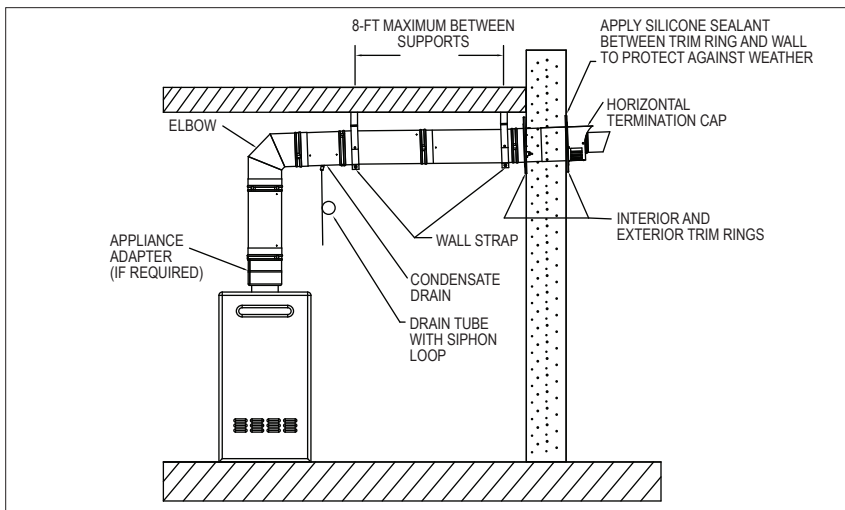
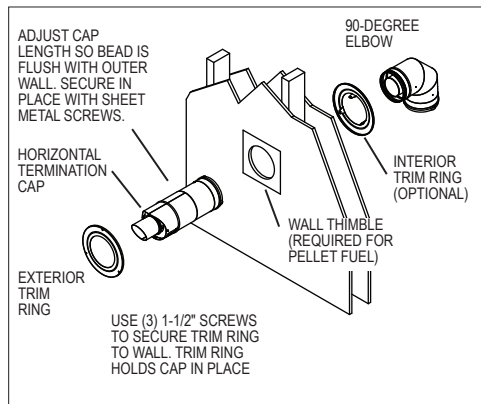

Figure 2- Gas Fuel
Figure 4
of the Appliance Adapter (if needed) and the radius/height of the Elbow. For horizontal vent runs, always maintain at least a 1/4" rise per foot away from the appliance (**Fig.2**) to prevent collection of condensate or buildup of heat in the vent. Also make sure you have accommodated any minimum vent height, if any, that the appliance manufacturer may require.
3. Cut wall penetration. Refer to the appliance manufacturer for clearance to combustible requirements from the vent. To accommodate the flared end of the vent pipe, the minimum hole size should be 5-3/8" x 5-3/8" for a square cut, or 5-3/8" diameter for a round cut (**Fig.4**). Always check with the appliance manufacturer for any additional clearance to combustibles (if any) from the venting that may be required. For reference, the Outside Trim Ring provided with the Horizontal Termination Cap measures a maximum of 8-1/2" diameter, and has a hole pattern of 7" diameter. **For pellet fuel installs, a wall thimble is required.**
4. Layout the Vent. Verify which CVS vent lengths and components you will need for your installation. Note: for gas fuel, the Horizontal Termination Cap must fit at a specific distance outside of the exterior wall (**Fig.2,3**). This distance is needed to ensure proper airflow and pressure within the CVS
6. Support Vent. Wall Straps are required every 8-ft of horizontal run in order to properly support the vent system (**Fig.2**). If the installation extends through the wall in
7. Install Wall Termination. If the optional Interior Trim Ring will be installed (gas fuel), bend the three tabs and slip the ring onto the pipe section previous to the Horizontal Termination Cap. Adjust the length of the Horizontal Termination Cap so that the inside edge of the bead of the black-painted exterior portion is flush with the outer wall. This bead is used in combination with the Outer Trim Ring (supplied with the cap) to hold the cap in place at the wall. Once the Horizontal Termination Cap has been adjusted to the correct length, secure it in place with (3) 1/2" sheet metal screws (**Fig.4**). Then twist-lock on the Horizontal Termination Cap, and align the cap so the air inlet openings are downward (**Fig.2,3**).
Install the black-painted Outer Trim Ring over the Horizontal Termination Cap and secure in place with the (3) 1-1/2" wood screws (**Fig.4**). Seal the Outer Trim Ring against the exterior wall using weatherizing silicone sealant.